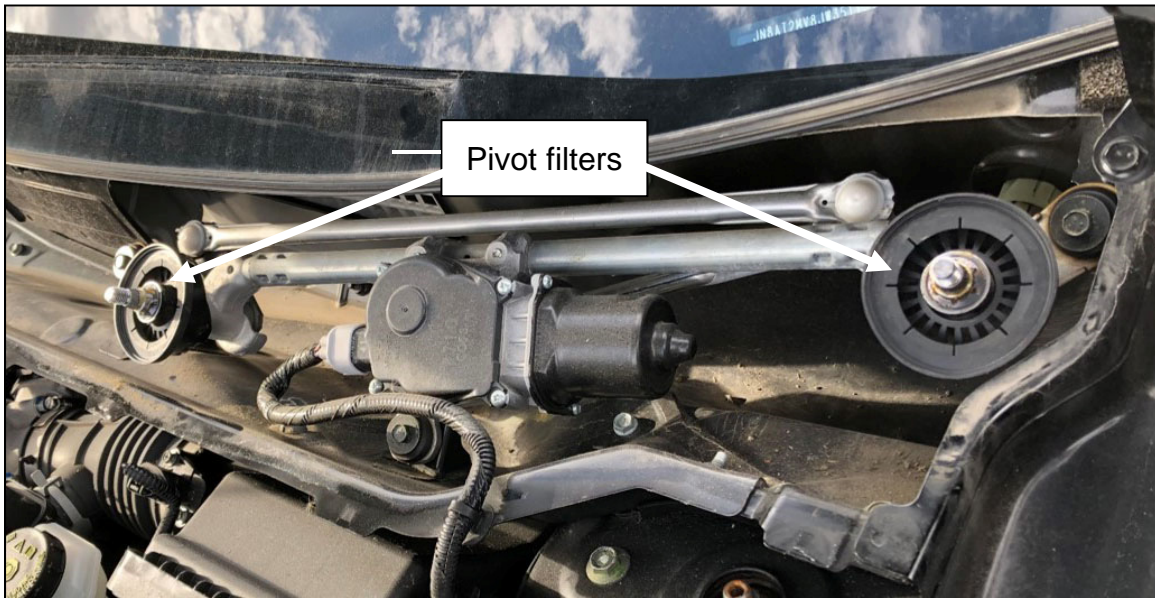

Figure 8
8. Install a wiper pivot filter on each wiper pivot, if not already equipped (see Figure 8).